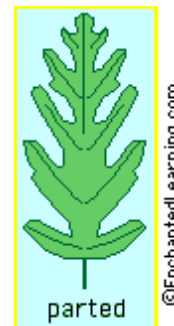

Figure 13.
**PARTED** (also called cleft) leaf is one in which the margins between the irregular teeth go more than halfway to the midrib. Refer to Figure 13.